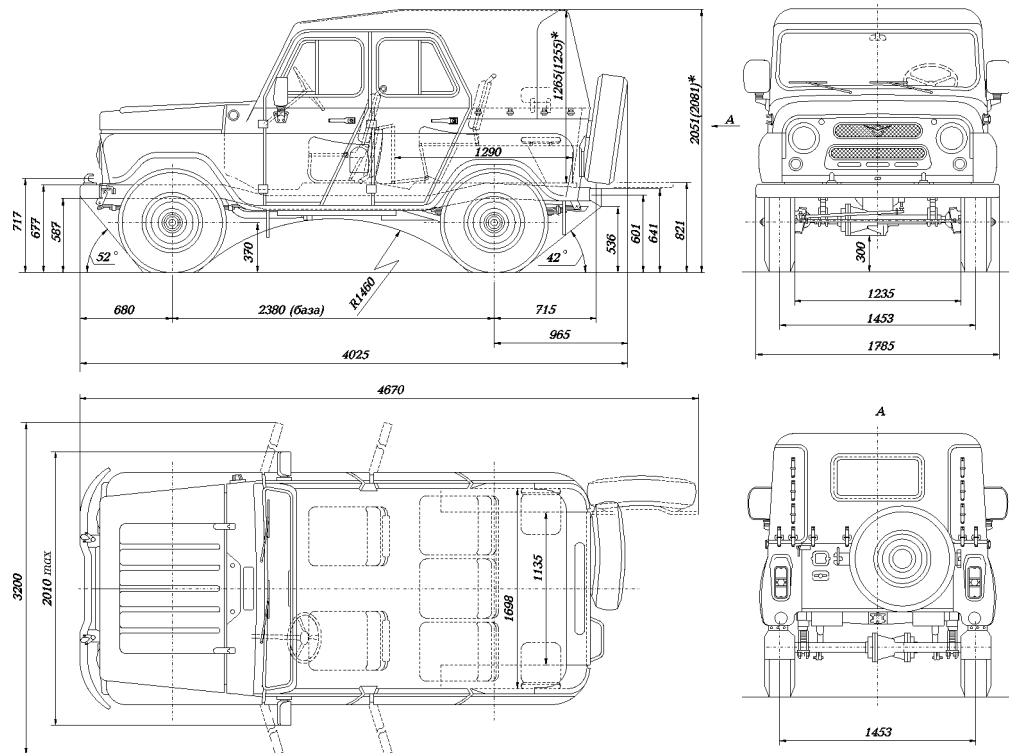

Fig. 4. Overall Dimensions of Automobiles YA3-31512, YA3-31514, YA3-31519 provided with axles with hub drives (dimensions are given for reference)
\* Some automobiles could be equipped with the driving axles with the hub drive (Fig. 4)
**Note.** Dimensions of automobiles provided with axles with hub drive see in Fig. 4